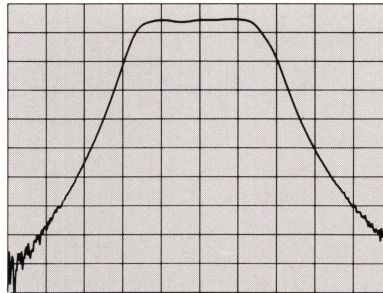

Figure 3.3
Figures 3.3 and 3.4 illustrate frequency response and group delay measurements of a mixer with a 10.7 MHz IF bandpass filter. Mixer flatness and conversion loss is obtained from the frequency response measurement. In this example the HP 3326A Channel A frequency is swept from 2.2 to 3.2 MHz (RF), and the Channel B start and stop sweep frequencies are both set at 8 MHz to produce a cw signal at 8 MHz. The HP 3577A is set to sweep from 10.2 to 11.2 MHz (IF). The HP 3326A was set for sinusoidal output and 0 dBm at both channels.